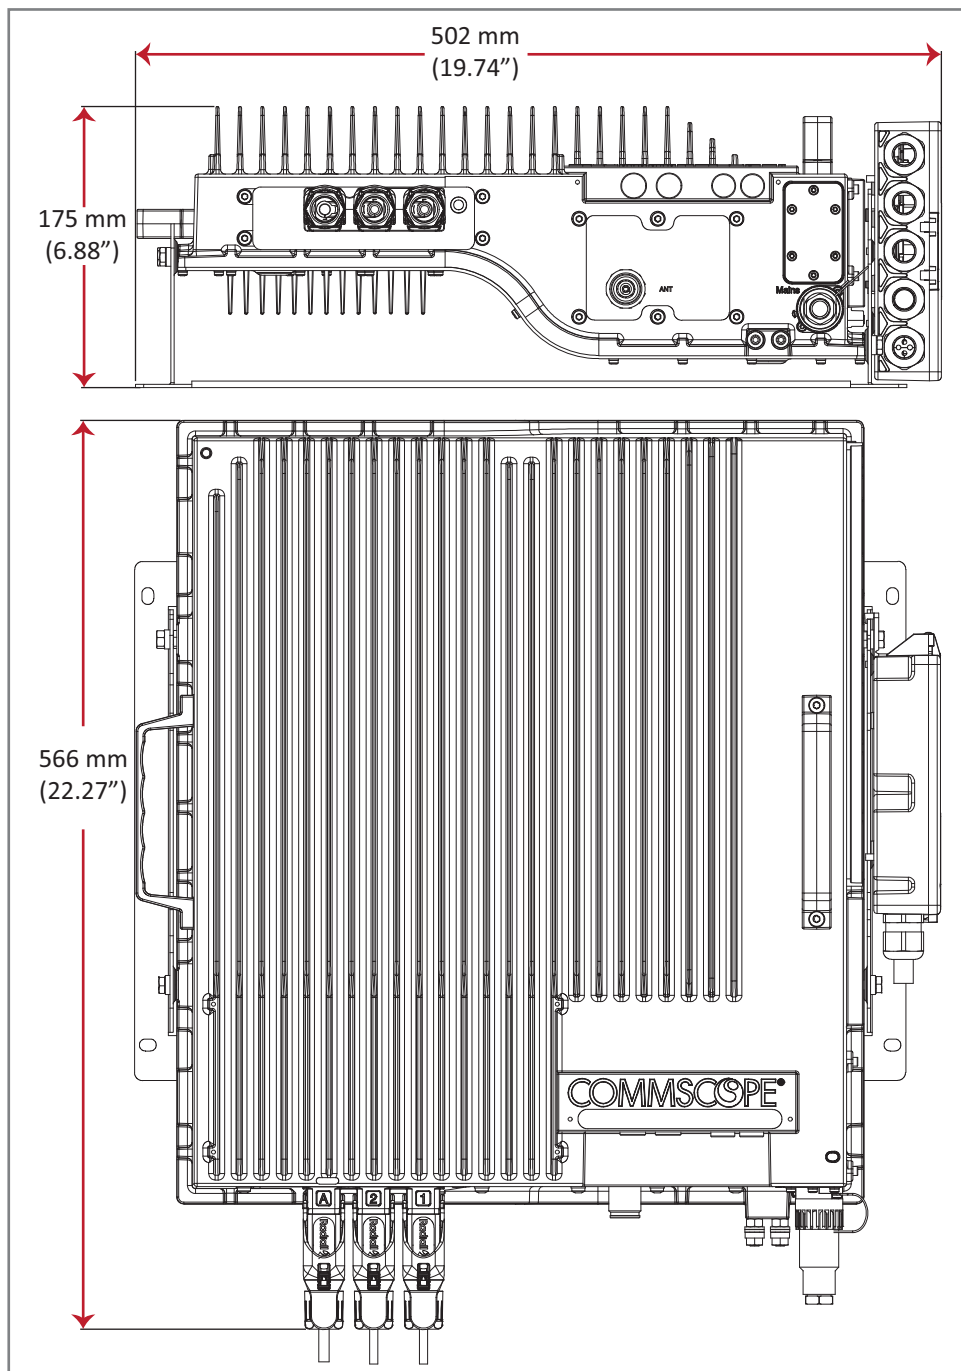
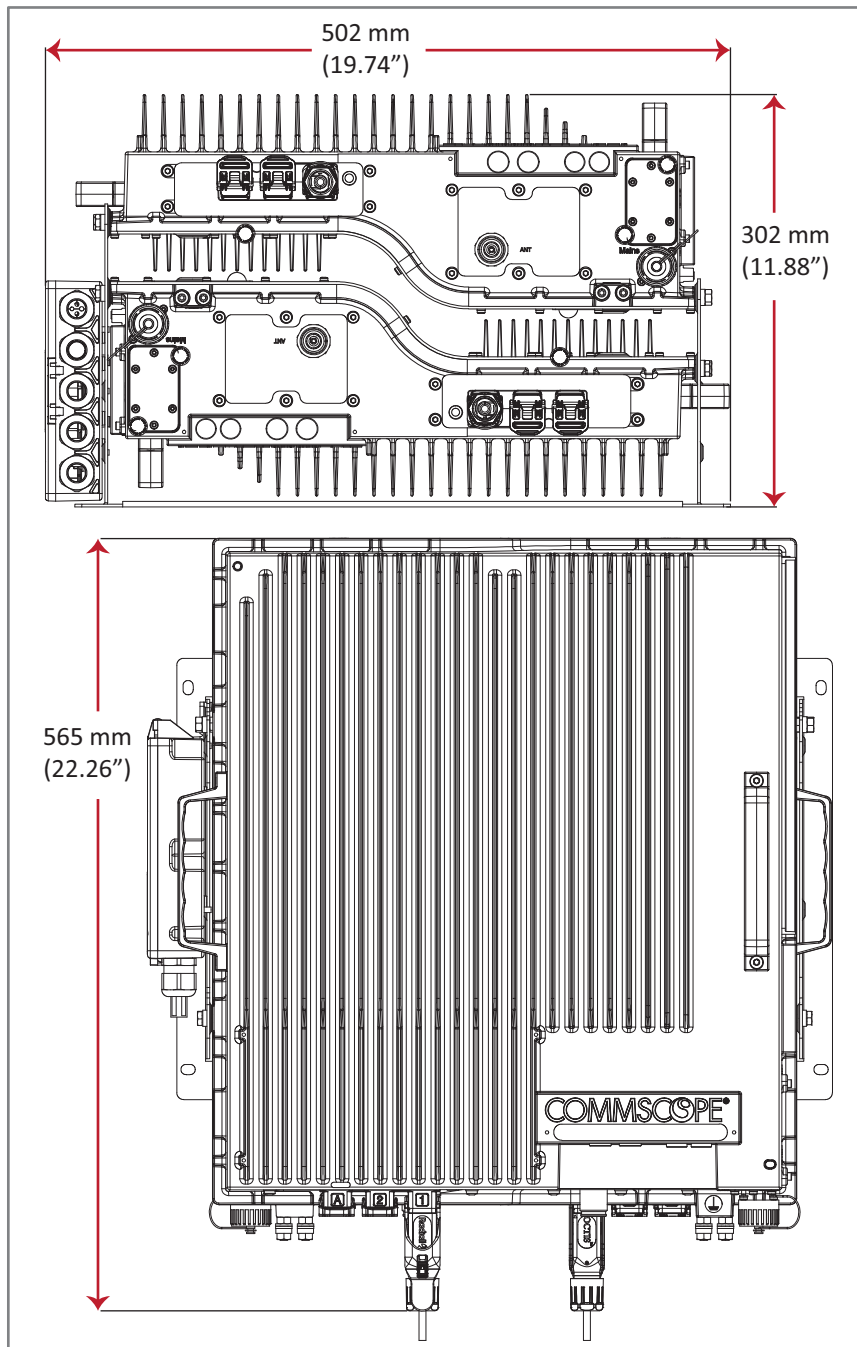

Figure 4. Mounting Dimensions with the Single Mounting Bracket
Figure 5. Mounting Dimensions with the Dual Mounting Bracket
- Use the dimensions shown in Figure 4 on page 17 for Single Mount and Figure 5 on page 18 for Dual Mount.